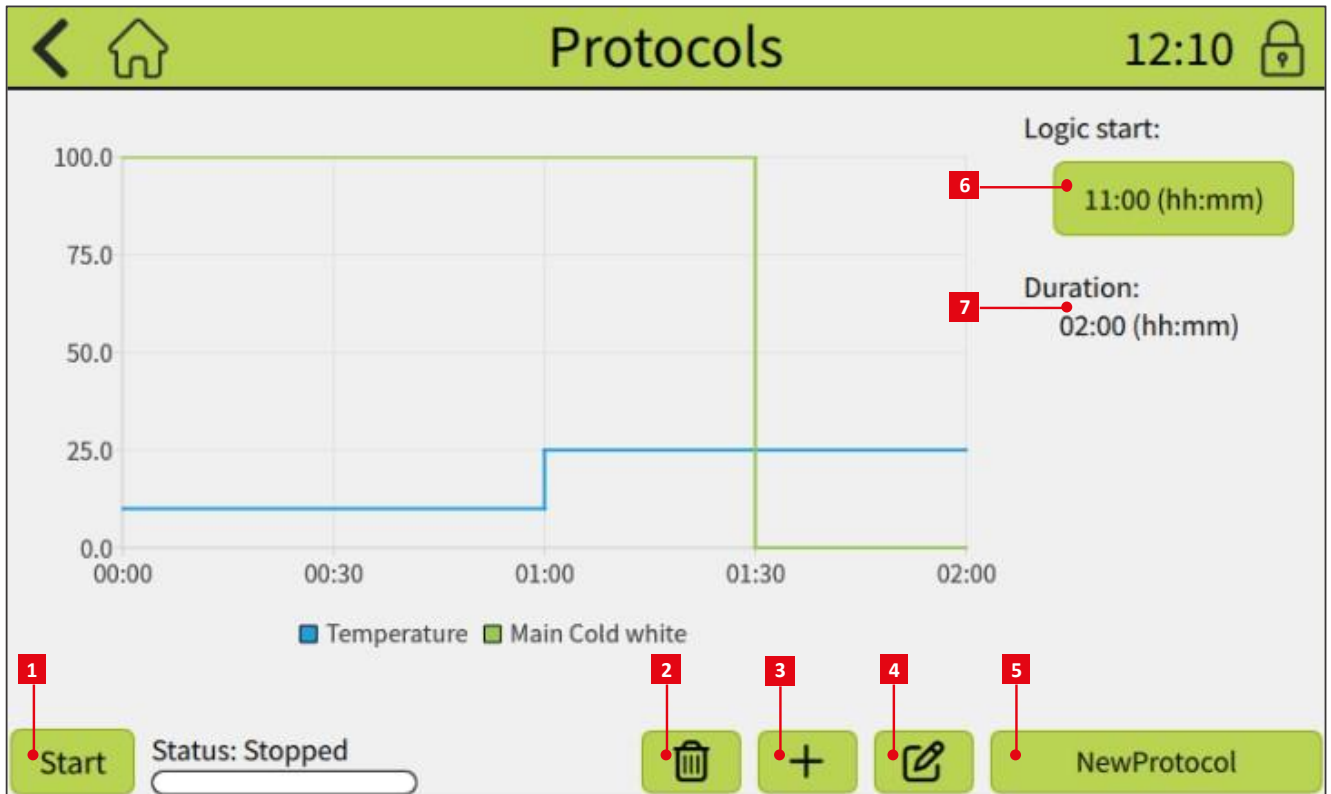

Fig. 15 Protocols submenu.
- To edit an existing protocol, click the **name of the current protocol** (Fig. 15 [5]), select the desired one from the list, and then click the **Edit protocol** button (Fig. 15 [4]). This allows the user to open and modify any previously saved protocol.